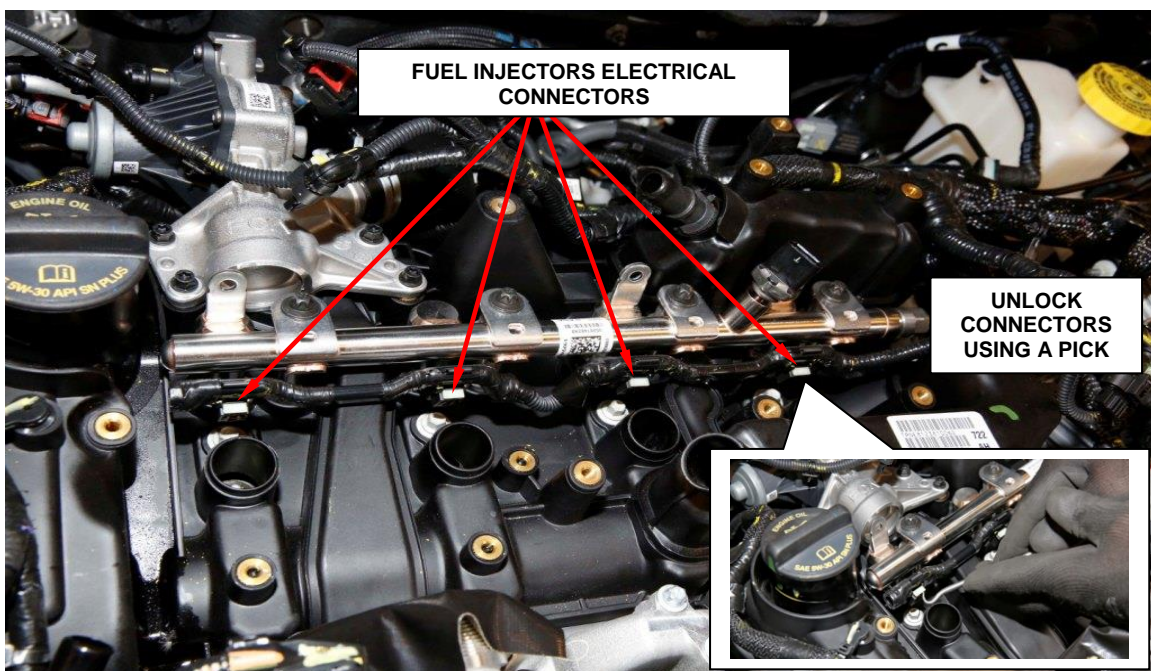

Figure 8 – Fuel Injector Harness
25. Unlock and disconnect the fuel injector's electrical connectors (Figure 8).